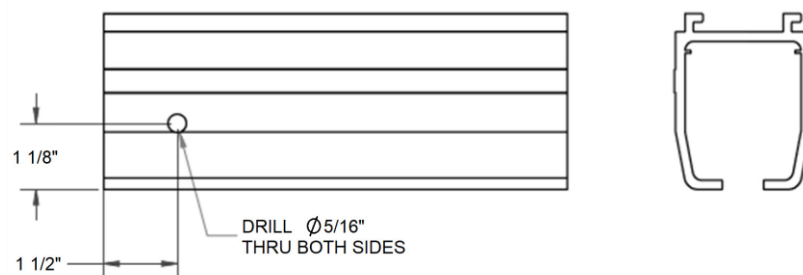

Figure 239: **Clevis Pin Hole Location**
- Use a 5/16" bit to drill a hole at the marked spots for the clevis pin (Figure 239).